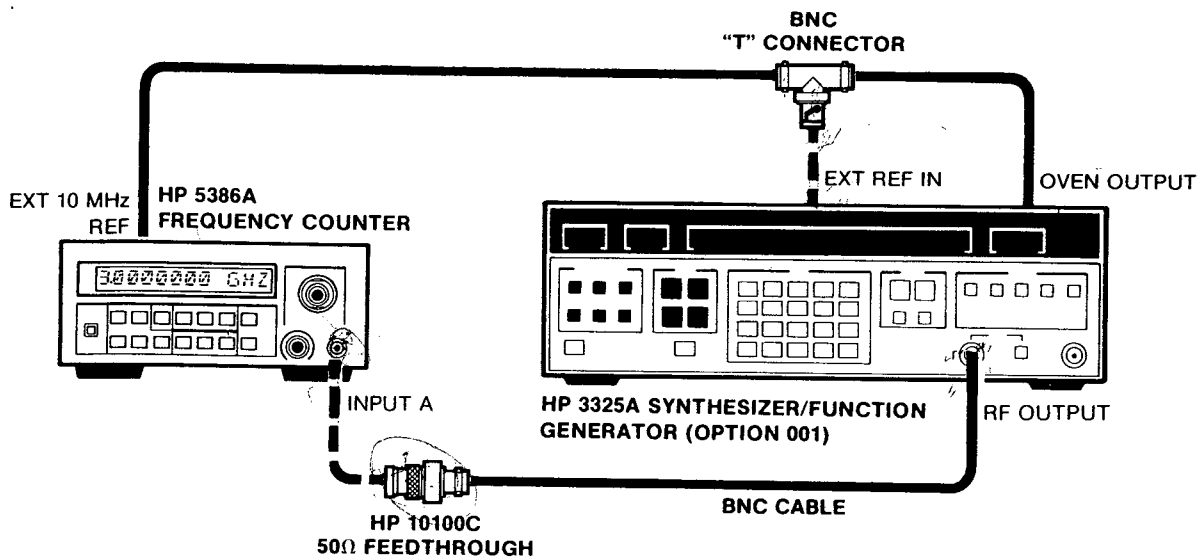

Figure 4-1. Channel A Frequency Response and Sensitivity Test Setup (HP 5386A)
1. Connect the HP 3325A synthesizer/function generator to the HP 5386A channel A input as shown in Figure 4-1.
1. Use the same set-up shown in Figure 4-1.